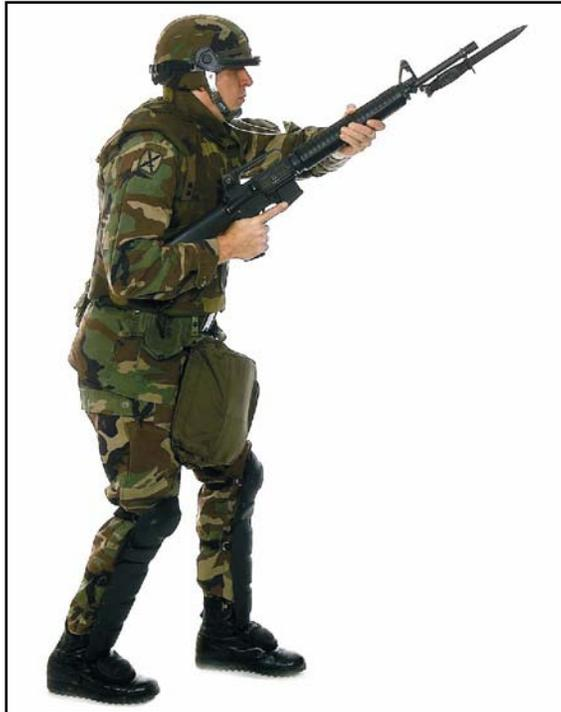

Figure 191-376-4122-3. On-guard position
- 3.** Assume the on-guard position, as shown in figure 191-376-4122-3.